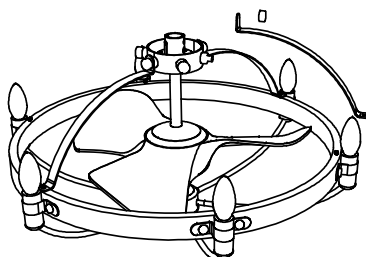

Fig. 6
1. Install the two opposing shade arms first to elevate the fan shade and prevent any potential imbalance (Fig. 6).